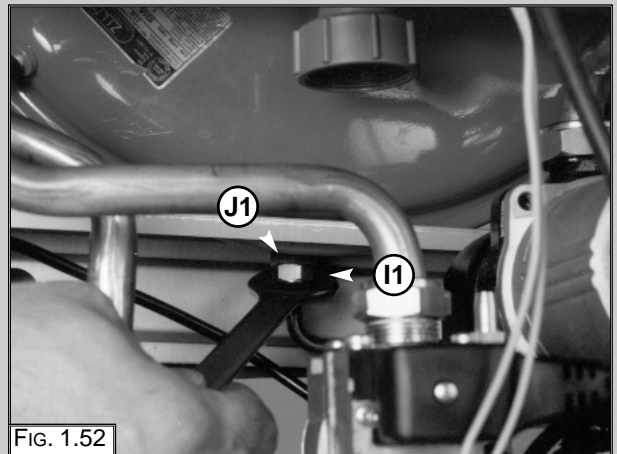

FIG. 1.52
2. Loosen nut "I1" and remove backnut "J1" (FIG. 1.52);